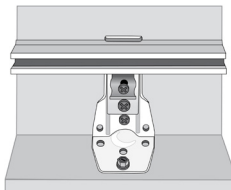

Figure 6
**3:** Valance boards come with velcro attached to the front of the board that holds the valance in place. Place the valance board on top of the brackets and secure to the brackets by screwing a 3/4" screw into the valance through the hole in the top of the bracket. [Figure 6]